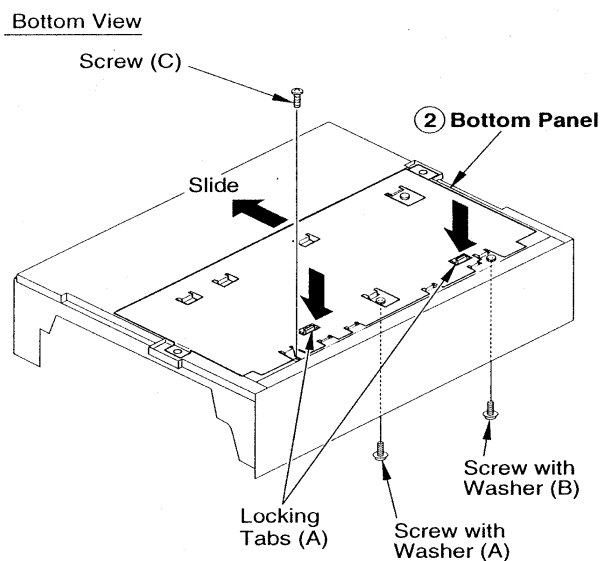

Fig. 4 - Bottom Panel Removal
**INSTRUMENT DISASSEMBLY (Continued)****Bottom Panel Removal (Fig. 4)**
2. Remove two (2) screws with washers (A) and (B).
3. Remove one (1) screw (C).
4. While releasing two (2) locking tabs (A), slide the bottom panel in the direction of the arrow to remove it.